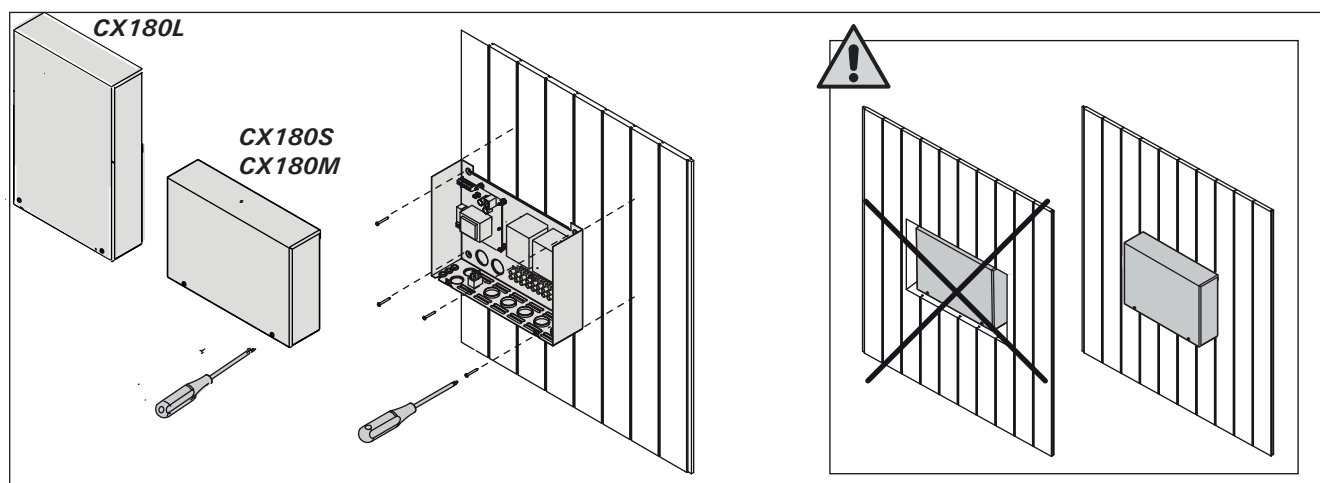

Figure 5. Opening the power unit cover and mounting the unit to a wall
Install the power unit to a wall outside the sauna room, in a dry place with an ambient temperature of  $>0^{\circ}\text{C}$ . See figure 5 for instructions on how to open the power unit cover and how to fix the unit to the wall.
**Note! Do not embed the power unit into the wall, since this may cause excessive heating of the internal components of the unit and lead to damage. See figure 5.**